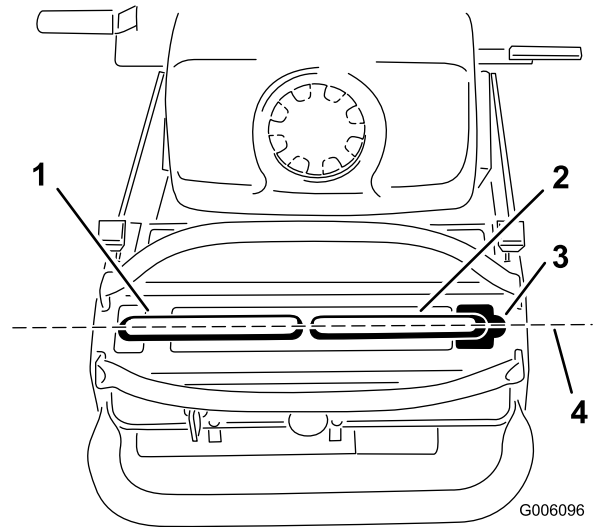

Figure 45
Important: Ensure the tracking of the mower is correct after adjusting the motion control levers. After adjusting the tracking, the motion control levers may not align the exactly front to back (Figure 45).
1. After the horizontal alignment is finished, check the front to back alignment (Figure 45).